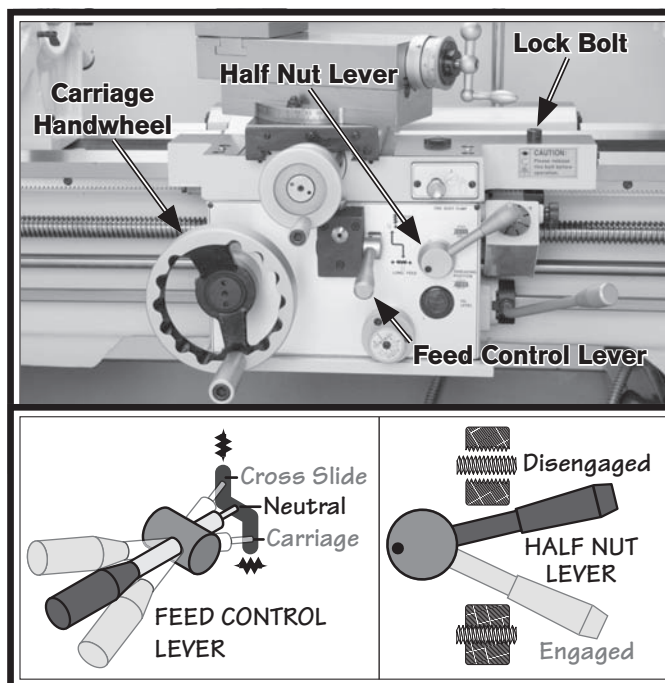

Figure 6. Carriage controls set for moving the carriage.
4. To further balance the load, loosen the carriage lock bolt (see **Figure 6**), disengage the half nut lever, put the feed control lever in neutral, then use the carriage handwheel to move the carriage next to the tailstock.